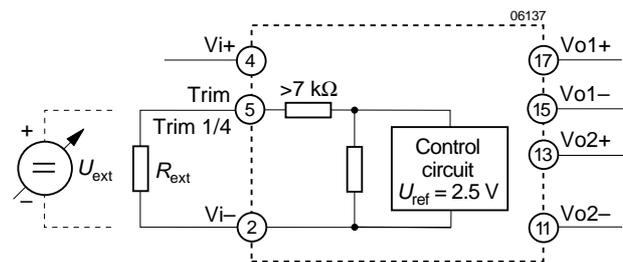

Fig. 16 Output voltage control for double and quad output units by means of the Trim input on the primary side.
The double output units IMX 35-05-05, IMX 35-12-12 and IMX 35-15-15 have a Trim input connected to pin 5. This input influences both outputs simultaneously. Both power trains have passive transformer feedback and the Trim input (pin 5) is referenced to the primary side. Fig. 16 shows the circuit topology. Adjustment of the output voltage is possible by means of either an external resistor R_{ext} in the range of 100...105% of $U_{o\ nom}$ (table 10) or in the range of 80...105% of $U_{o\ nom}$ by means of an external voltage source (table 11).
The quad output units are shown in block diagram 3. All types with equal output voltage have the Trim function connected to pin 5 referenced to the primary side which influences all outputs simultaneously. The schematics are shown in fig. 16, the values of the adjust resistor R_{ext} in Table 10 and the external voltage source in Table 11.
b) Adjustment by means of an external voltage source U_{ext} (Fig. 16):